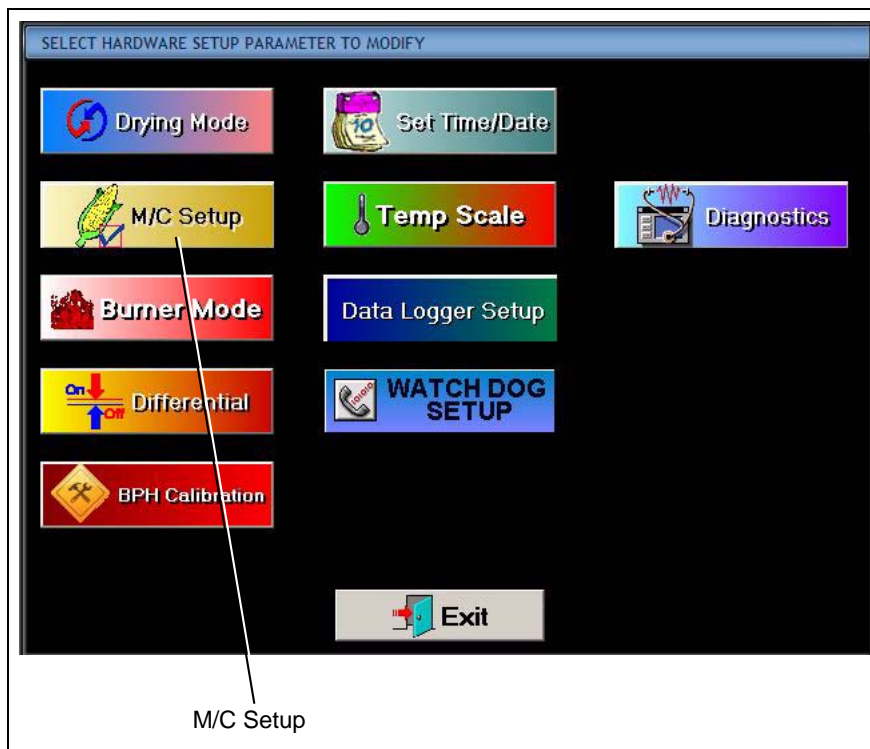

Figure 3C Setup Screen M/C Setup Button
- When the Setup Screen appears, touch the M/C SETUP button. (See Figure 3C.)